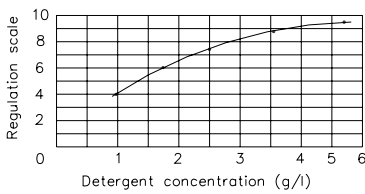

fig. 7
- **conductimetric electronic regulation (fig. 7)**